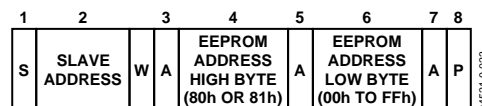

Figure 32. Setting an EEPROM Address
- Set up a 2-byte EEPROM address for a subsequent read or block read. In this case, the command byte is the high byte of the EEPROM address (80h). The (only) data byte is the low byte of the EEPROM address. This is illustrated in Figure 32.